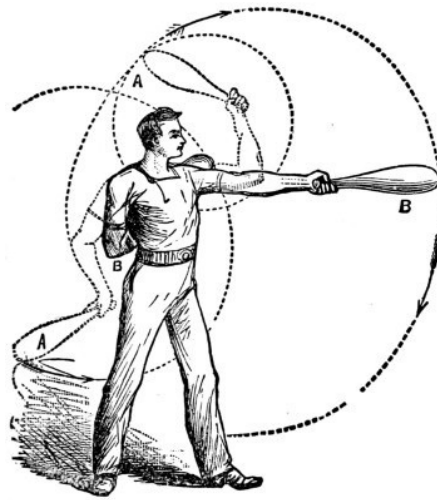

Fig. 14
*Exercise 12 (Fig. 14).*—Now this *is* difficult, and will take a long time to learn. It is a complication of Exercise 3. Commence with that, and, having got the clubs into a good swing, check the course of the right arm, slightly decrease the pace of the left arm, and throw the right club sharply behind the body, until the base rises a little above the left shoulder (see Fig.), then swing it back to *A* and *B*, and continue the original circle, all this time keeping the other club (the left) travelling in a circle, until it becomes its turn to effect the movement that the right one has just completed, and so on, first with the right club behind the body, and then with the left in front, and *vice versa*. This is one of the best and prettiest exercises yet described, and will entail long and patient practice; but when thoroughly acquired it will well repay the perseverance expended upon it.